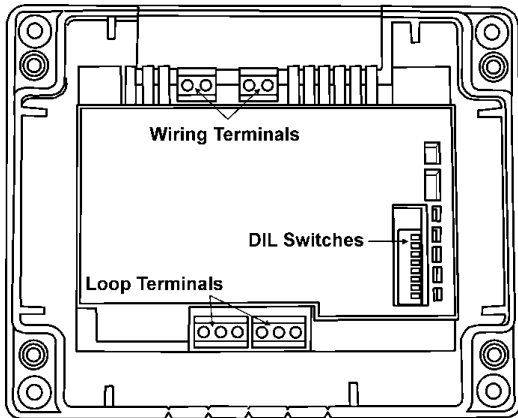
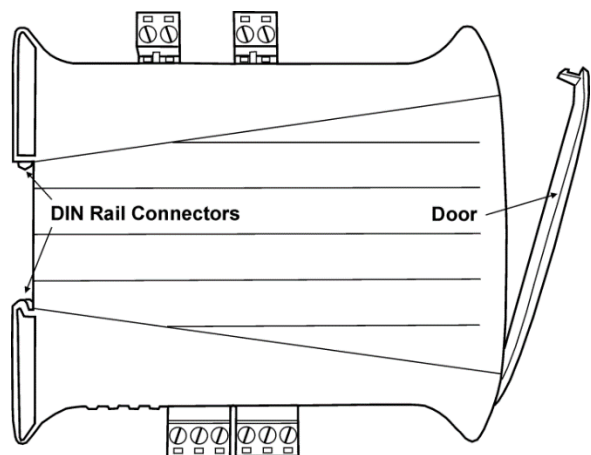

Fig 1
Fig 3
Standard "Smart-Fix" Modules (including (SCI) versions) are supplied as two individual components (see Fig 1 & 2). DIN versions are supplied as one unit (see Fig 3).
- ❑ The analogue address of the Module is set using the first 7 switches of the 8-bit DIL switch, which in the case of the standard CHQ is located through the cut-out section on the top of the PCB cover. On the DIN version this switch is located on the edge of the PCB behind the clear door (see Fig 3).